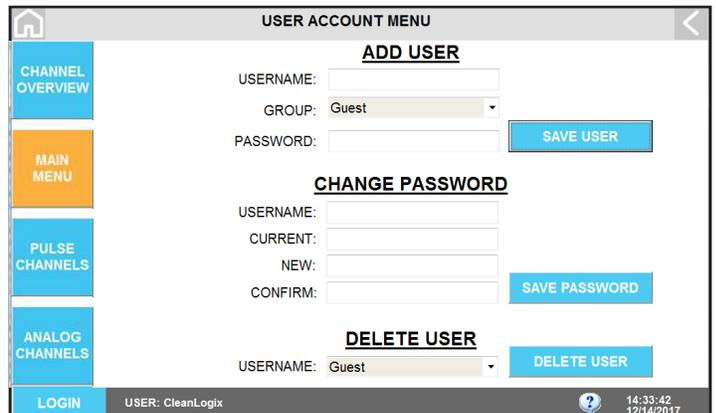

Figure 6.3: User Menu
4. Enter information as necessary for the following procedures [Figure 6.3]: